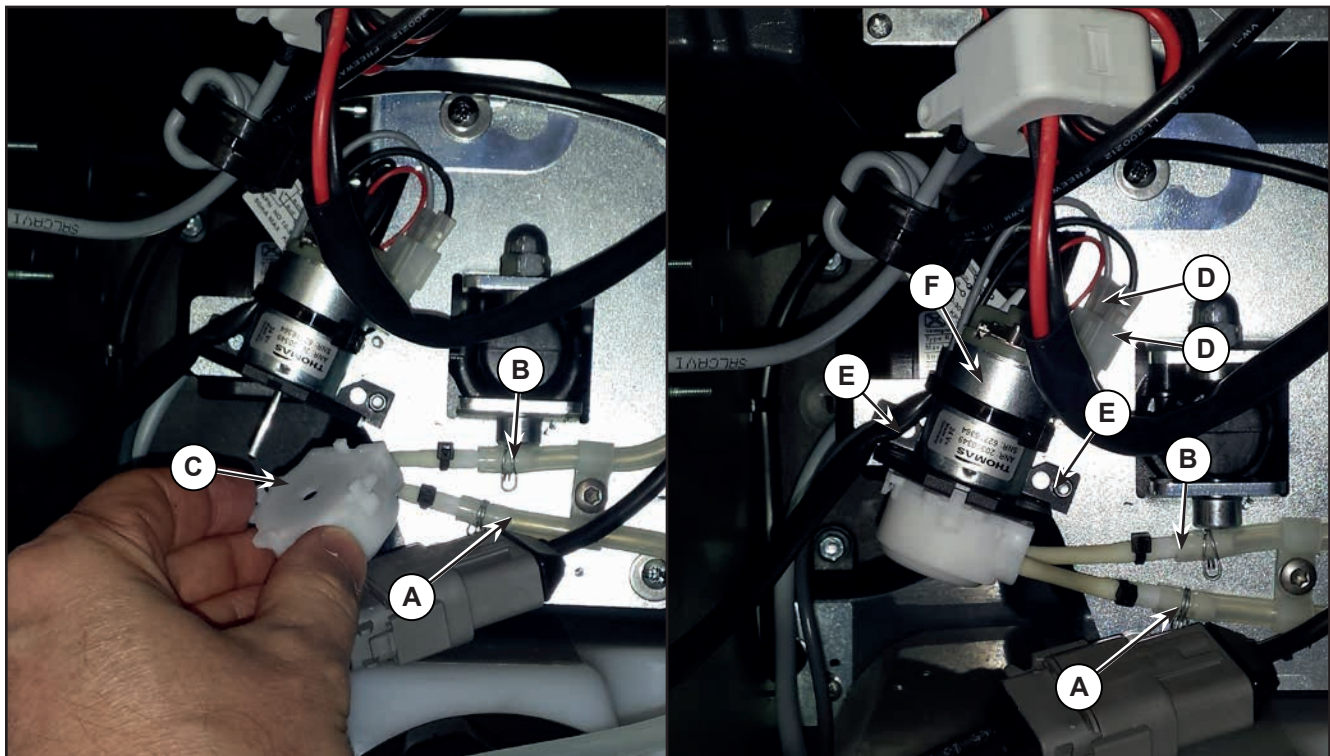

Figure 13:
4. Unscrew the screw (A) (Figure 13) and remove the sensor holder (B).
5. Unscrew the two screws (C) and remove the water level sensor (D).